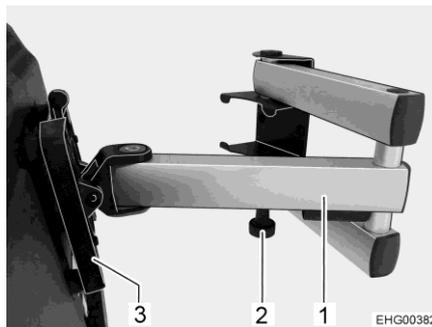

Fig. 76 Holder (two-piece jointed arm)
- Pull the release knob (Fig. 76,2). The jointed arm (Fig. 76,1) is unlocked.
- Turn the flat screen back into the original position until you hear the holder (Fig. 76,3) engage in the lock.